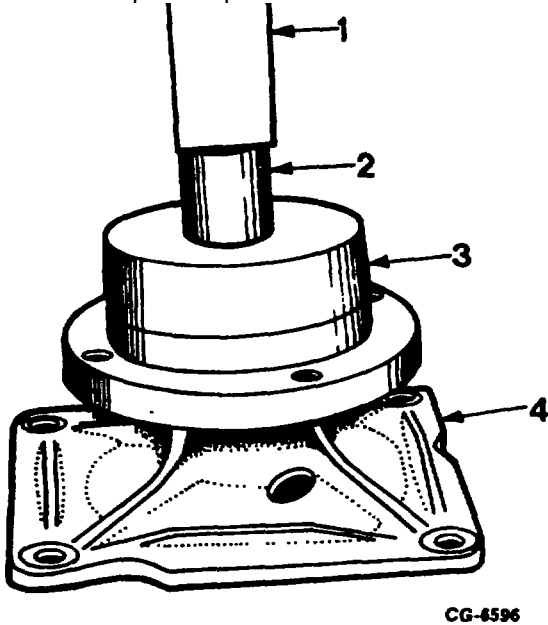

Figure 165. Installing Pulley Hub
3. Press the hub on to the shaft using pulley hub installer SE-2085 as shown in Figure 165.